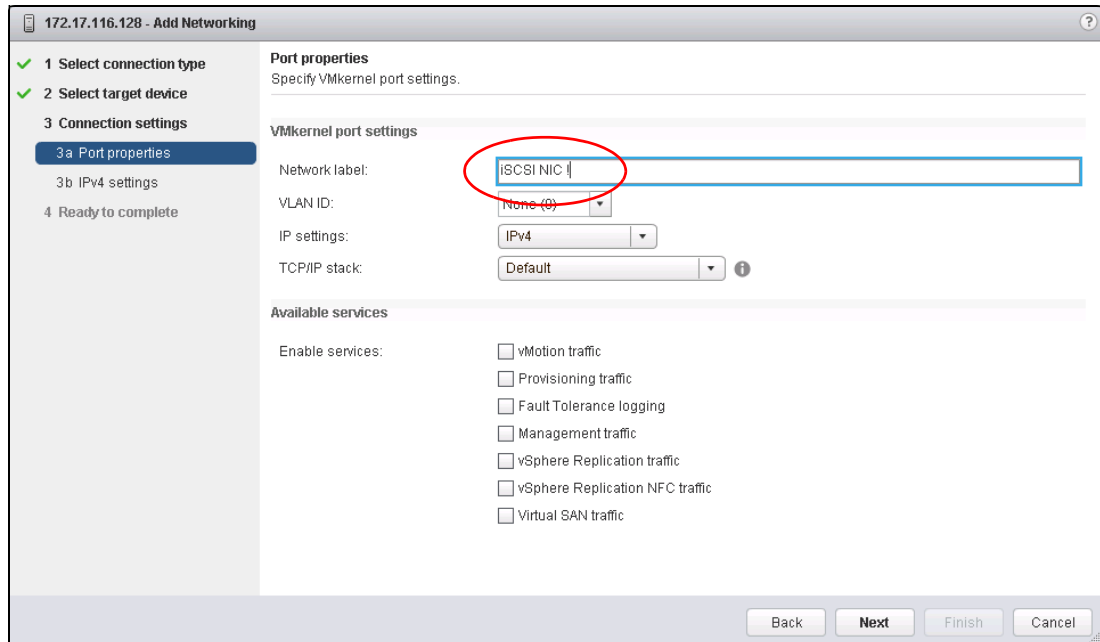

Figure 5-23 Enter a network label
5. Enter a meaningful network label and click **Next** (see Figure 5-23).